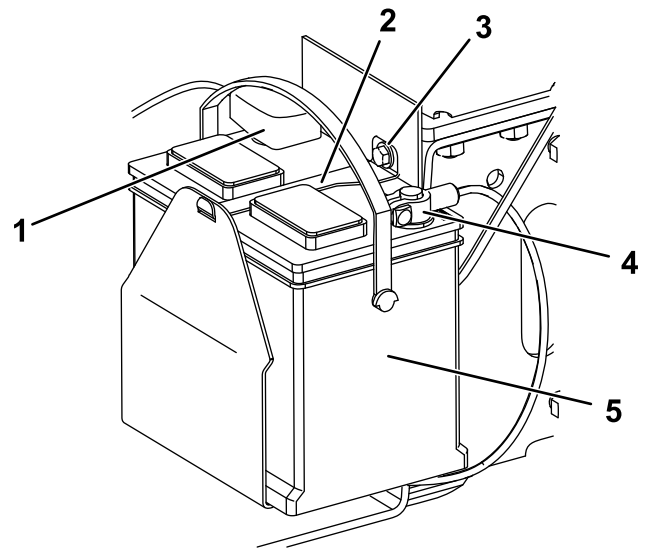

Figure 38
6. Disconnect the negative (black) ground cable from the battery post (Figure 38). Retain the fasteners.
8. Disconnect the positive (red) cable from the battery post (Figure 38). Retain the fasteners.
5. Remove the bolt, washer, and bar securing the battery (Figure 38).
- Using the fasteners previously removed, install the positive (red) battery cable to the positive (+) battery terminal (Figure 38).
- Using the fasteners previously removed, install the negative (black) battery cable to the negative (-) battery terminal (Figure 38).
- Secure the battery using the bar, bolt, and washer (Figure 38).